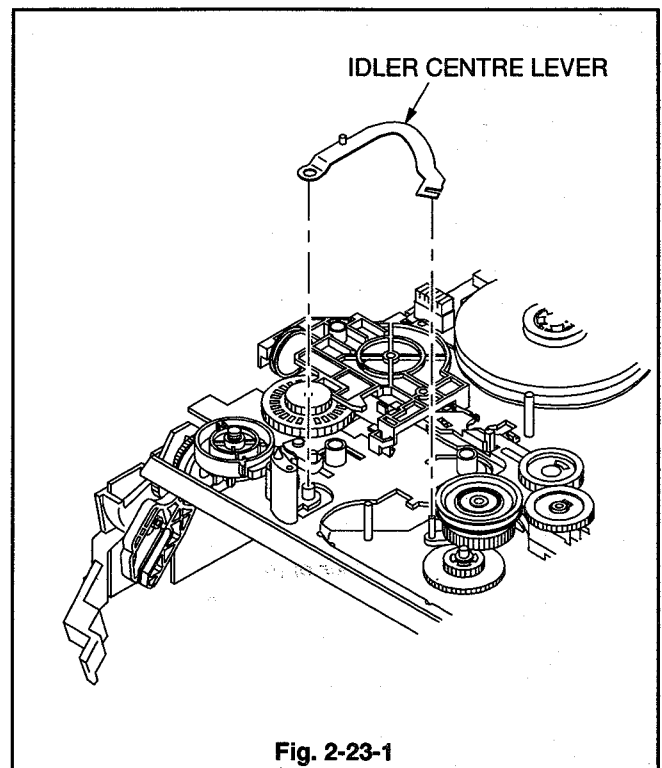

Fig. 2-23-1
- 1 Remove the IDLER CENTRE LEVER shown in Fig. 2-23-1.